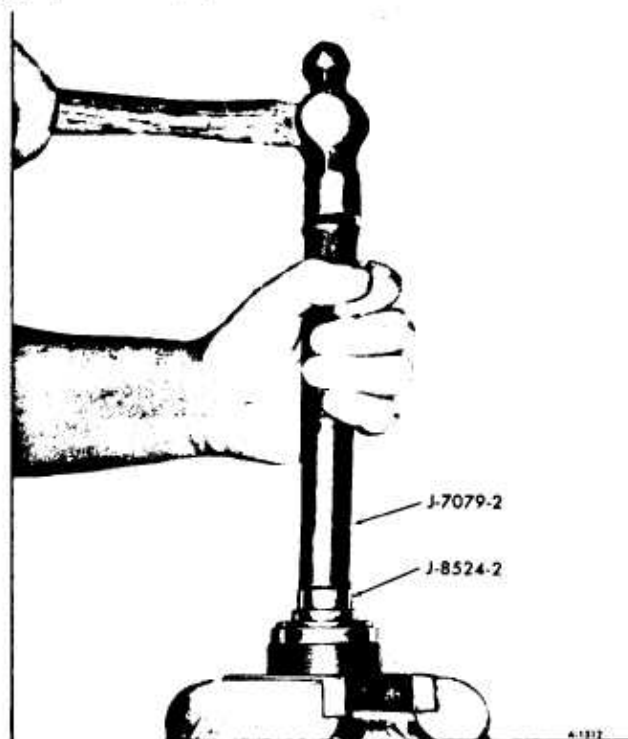

Figure 30—Removing Bearing and Seal
3. If the needle bearing is to be replaced, remove the retaining ring using Internal Pliers J-4245. Remove thrust bearing as outlined in Step 2 above. Drive needle bearing, dust seal and oil seal from adjuster plug using Bearing Remover J-8524-2 and Driver J-7079-2 as shown in Figure 30. Discard the seals.